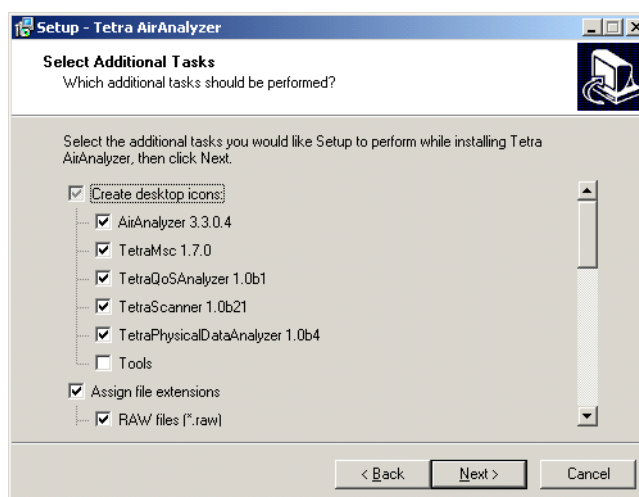

Figure 7 Selecting additional functions to be installed
- 12 Click on **Next** to proceed to the next window shown in Figure 7.